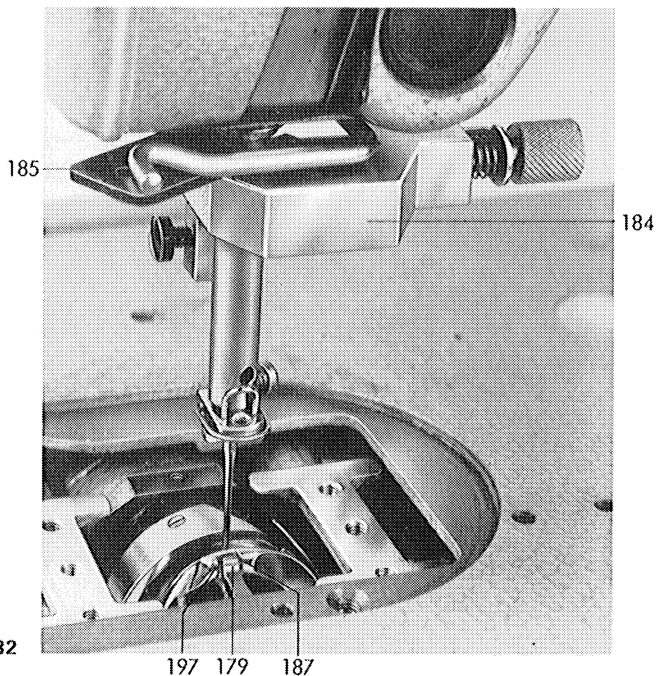

Fig. 32
By using a setting block 184 (fig. 32), ref. no. 223531, and the respective setting gauge set the loop stroke as follows:
The high rotational speed of the sewing hook produces considerable friction between the hook race and the bobbin base and, consequently in case of machines without this device, a certain degree of pressure at the thread exit exists between the bobbin case retaining lug 179 (fig. 32) and the contact surface 187 of the bobbin base. The purpose of this lifter is to pull the bobbin case slightly contrary to the direction of rotation of the hook at the moment when the upper thread loop passes the retaining lug, in order to allow the thread to slide past this point unhindered.
of the upper thread can freely pass along the lug 230 of the lifter finger 188 (fig. 9) and the lug of the bobbin case holder 179 (fig. 32). To adjust the movement of the bobbin case lifter — this should be adjusted very precisely — proceed as follows:
3. Adjust the bobbin case lifter by turning the eccentric bolt 196 (by a screwdriver, introduced through the hole of the plug 193) and lifter finger 188 so that at the moment when the needle has reached its top-most position and with the bobbin case pressed in the direction of the sewing hook, lifter finger 188 touches the stop cam 229 (fig. 9) and pulls bobbin case base to the left until on either side of the lug of the bobbin case support 179 there is an equal distance between the surface 187 and 197 (fig. 32) and the bobbin case base.
To re-assemble the hook, proceed in the reverse order, making sure that the lug of the bobbin case holder 179 (fig. 32) fits into the notch in the base of the bobbin case.